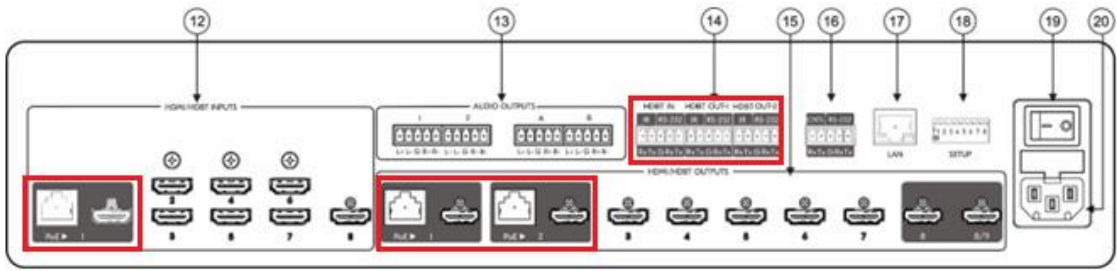

Figure 6: Rear Panel Highlighting HDBT Channel and Port
See (Figure 6): Each of the RS-232 and IR data signals may be configured for extension between HDBT (RJ-45) ports ( ⑫ and ⑮ ), or between an